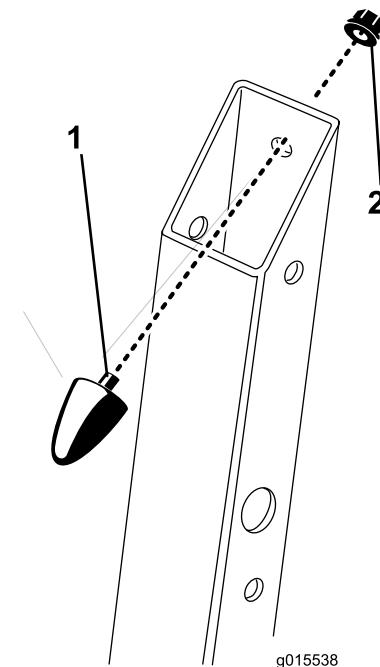

Figure 9
4. If the conical rubber bumpers are not pre-installed, unlock the rollbar and put it in the down position. Install the conical rubber bumpers inside the cutout at the top of the rollbar supports as shown in Figure 9. Secure them using the 5/16 inch flange nuts.